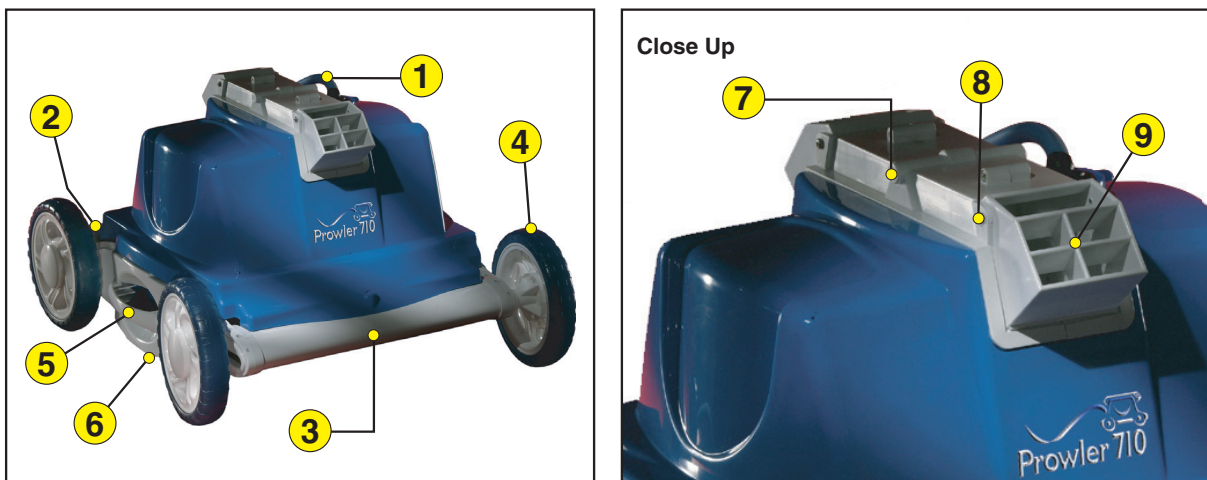

Figure 2.
B. Pool Cleaner with Floating Cable, **Figure 2.**
<p>Water flow from the hydroscrub jet tubes (Figure 2, Item 6) have no pressure or water coming out from them.</p>	<p>Remove the Bottom Lid Assembly. Check clear vinyl tubing for obstructions, blockages and that each are securely connected to the Pump Motor Housing. If tubes are obstructed or blocked, then remove the tubing from the pump housing by gently pulling the tubing from the pump. The tube is not glued in place. After the tube is removed, you can clear blockage by running water through the tube using the pressure from a garden hose. Be sure to replace the tubing securely.</p>
Does not reverse direction.	<p>Take a garden hose with high pressure, spray into the Valve Housing at each Valve Port opening, (Figure 2, Item 9). This should free the Jet Valve System of any debris. If this does not solve the problem, firmly grab hold of both of your cleaner's Handles (Figure 2, Item 5) and forcefully dunk the cleaner in and out of the pool several times to flush out the dirt causing the problem. If debris is still lodged (such as sand or dirt) or there is debris wrapped around the Propeller the Jet Valve or between the Valve Flap and the Valve Housing wall, proceed below to "Cleaning the Propeller". If this still does not solve the problem, then use a Phillips head screwdriver to loosen each of the screws at the top of the Valve Housing (Figure 2, Item 7) that keep each side of the Housing together - by 1½ turns each (counterclockwise). Then repeat high pressure spraying into the Valve Housing. Retighten each screw 1½ turns (clockwise) to re-secure.</p>
Cleaning the Propeller.	<p>Remove Valve Extension Screws (Figure 2, Item 8) on one side of cleaner and respective Valve Extension Port (Figure 2, Item 9).</p> <p>Bend a common large paper clip into the shape of a hook (Figure 18 on page 15), and push the Valve Flap back with your finger to expose the Pump Motor Propeller. You may find debris like hair, string, or a small twig caught in the Propeller. Use your paper clip to hook or free the debris, and remove it (Figure 20 on page 15).</p>